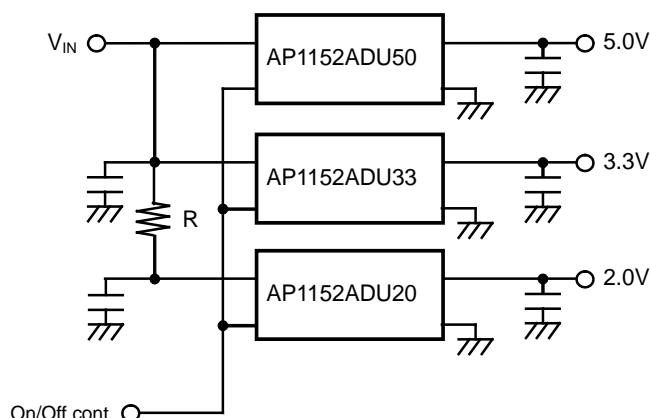

Figure 4. Parallel-Connected On/Off Control
The Figure 4 is multiple regulators being controlled by a single On/Off control signal. There is fear of overheating, because the power loss of the low voltage side IC (AP1152ADU20) is large. The series resistor (R) is put in the input line of the low output voltage regulator in order to prevent over-dissipation. The voltage dropped across the resistor reduces the large input-to-output voltage across the regulator, reducing the power dissipation in the device. When the thermal sensor works, a decrease of the output voltage, oscillation, etc. may be observed.